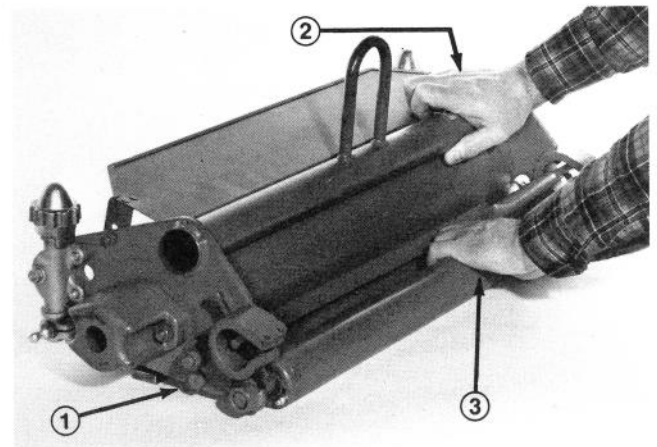

Figure 17
3. With the Cutting Unit reel blades positioned on the plate, hold Cutting Unit securely and push down on the rear roller assembly until it contacts the working surface across the full length of the roller (Fig. 17).